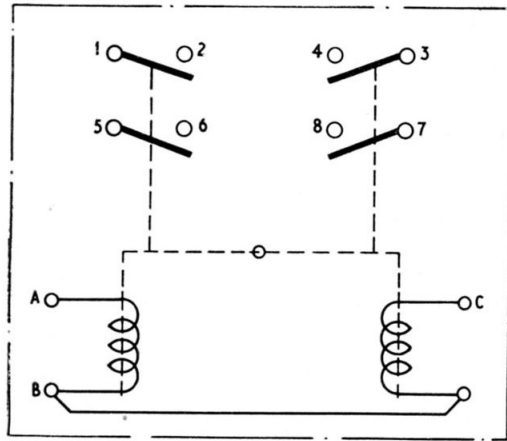

Fig. 2. Circuit diagram
4. A circuit diagram is given in fig. 2. Electrical connection to the coils is made to tags A, B, and C on the ends of the relay; connection to the contacts is made to tags underneath the base.